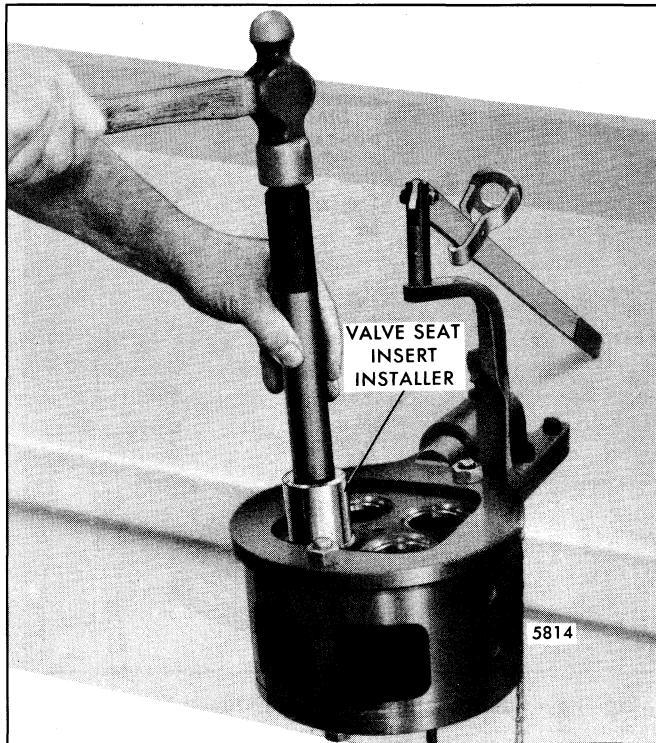

Fig. 11 - Installing Valve Seat Insert
7. Drive the valve insert with installer J 22711 until it seats solidly in the cylinder head (Fig. 11).